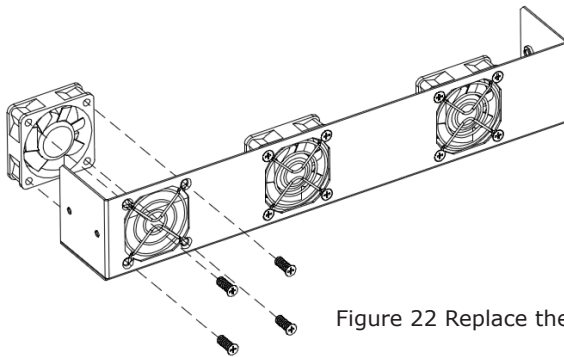

Figure 22 Replace the fan
- (8) Disassemble the damaged inverter fan as shown in Fig 22, then install the new fan back to its original position, and connect the fan power and control cable;